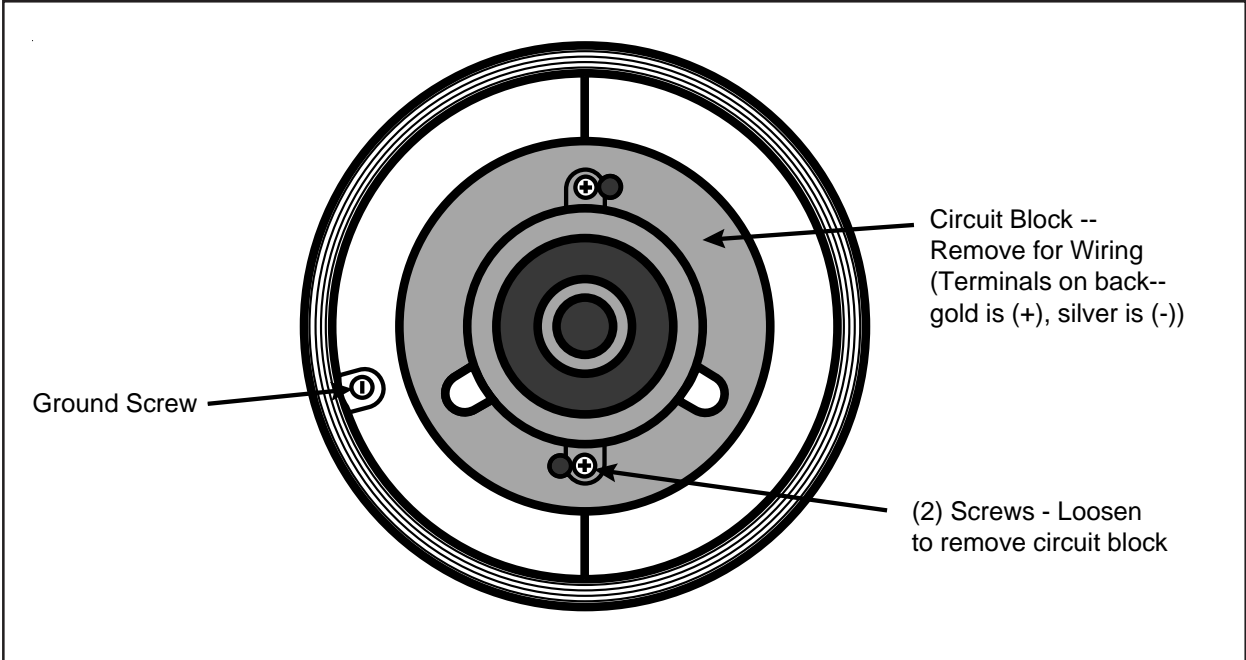

Figure 4. Wiring the AdaptaBeacon
3. Refer to Figure 4. Loosen the (2) screws holding the circuit block in place. Rotate and remove the circuit block.
4. Connect field earth ground wire to ground screw (Figure 4) or earth ground via conduit system.